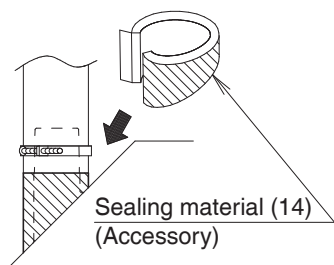
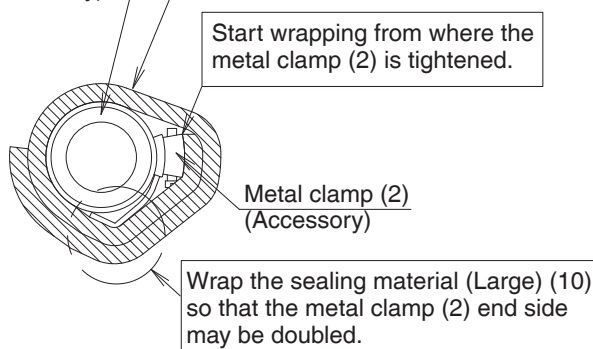

Fig. 20
Fig. 22
- After checking the drainage of water, refer to **Fig. 20** and attach the sealing material (14) to perform the thermal insulation of the drain socket.
After checking the drainage of water, refer to **Fig. 20** and attach the sealing material (14) to perform the thermal insulation of the drain socket.
After drainage is checked, put the attached sealing material (14) referring to **Fig. 20**, and insulate the drain hose (1) and the metal clamp (2) with the attached sealing material (Large) (10) referring to **Fig. 22**.